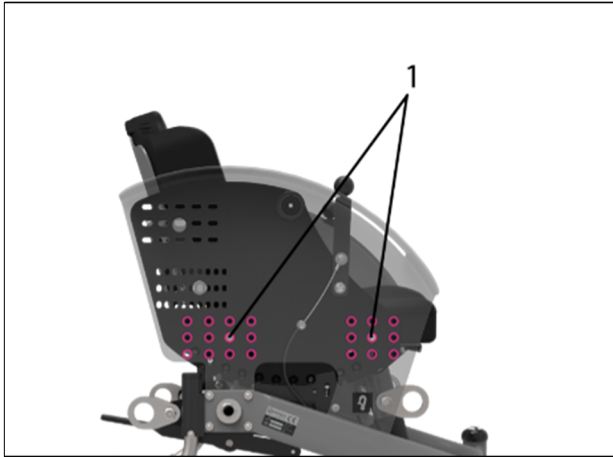

Figure 11: Adjusting the positive seat angle
1. Slightly loosen the four Allen head nuts (see Figure 11, item 1).